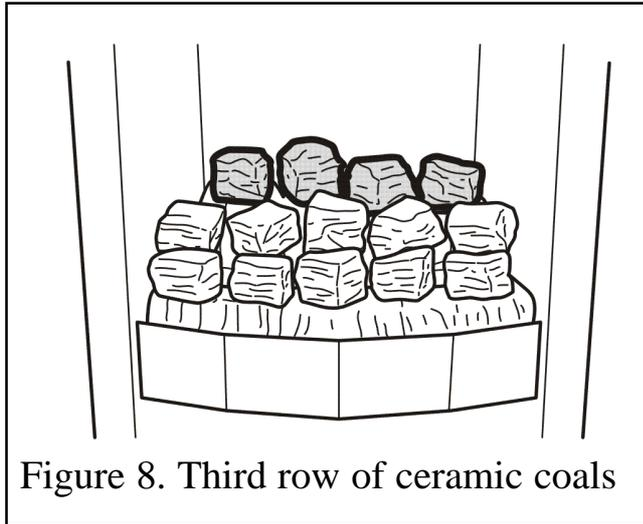

Figure 8. Third row of ceramic coals
4. Place the remaining four ceramic coals on top of the base ceramic coal rear (See figure 8).